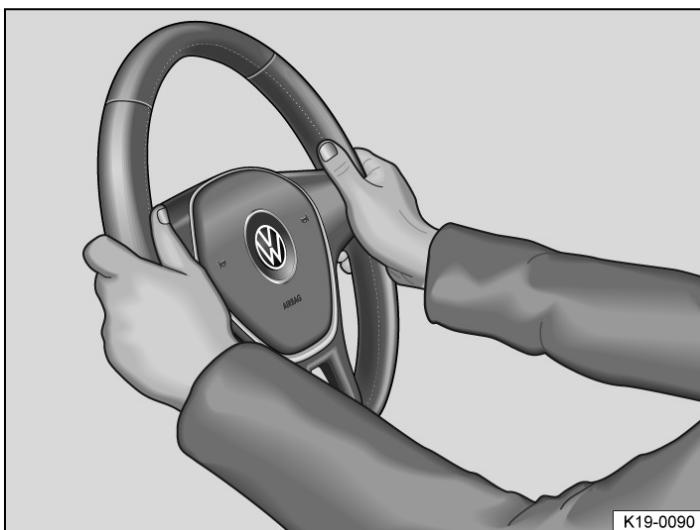

Fig. 2 On the steering wheel: 9 o'clock and 3 o'clock position.
- Adjust the steering wheel so that you can hold it with both hands at its outer edge at the *9 o'clock and 3 o'clock positions* with your arms slightly bent → Fig. 2.
- While driving, always keep both hands on the outside of the steering wheel at the *9 o'clock and 3 o'clock positions*. → Fig. 2 This reduces the risk of injury if the driver front airbag is triggered.